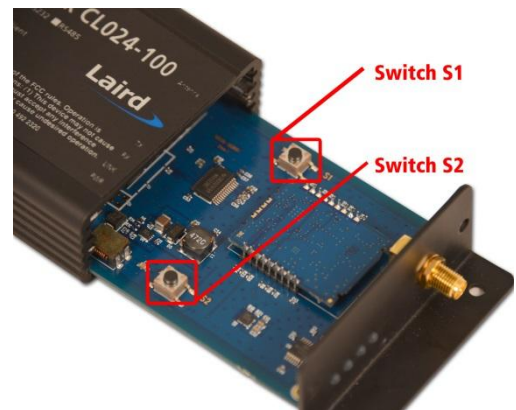

Figure 1: S1 and S2 pushbuttons
4. Press and hold both pushbuttons S1 and S2 (Figure 1).